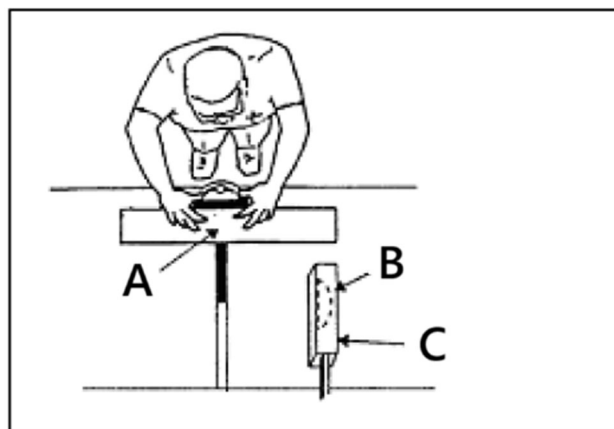

Fig. 19
2. It allows for precise diagonal cuts between 90° and 45° through adjustable positioning (Fig. 19).